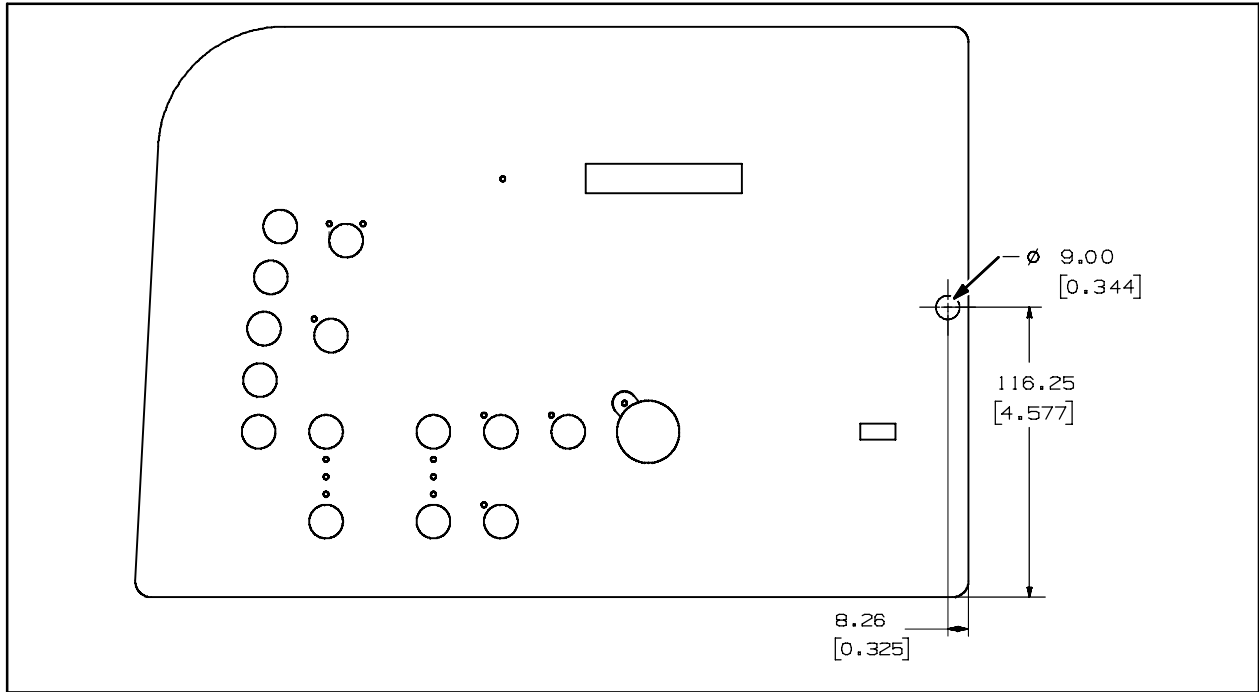

FIG. 5
21. Drill a 11/32" (0.344") hole through the instrument panel assembly. Refer to Fig. 5.
25. Insert the *ec-H20* warning light into the 11/32" (0.344") hole. Refer to Fig. 5.